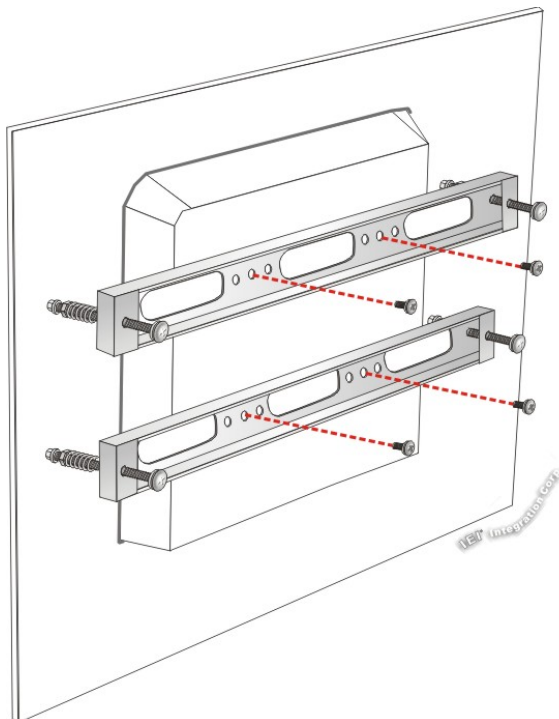

Figure 3-16: Securing Panel Mounting Brackets
Step 7: Secure the two panel mounting brackets to the rear of the panel PC by inserting the four retention screws into the VESA mounting holes and tightening them (Figure 3-16).